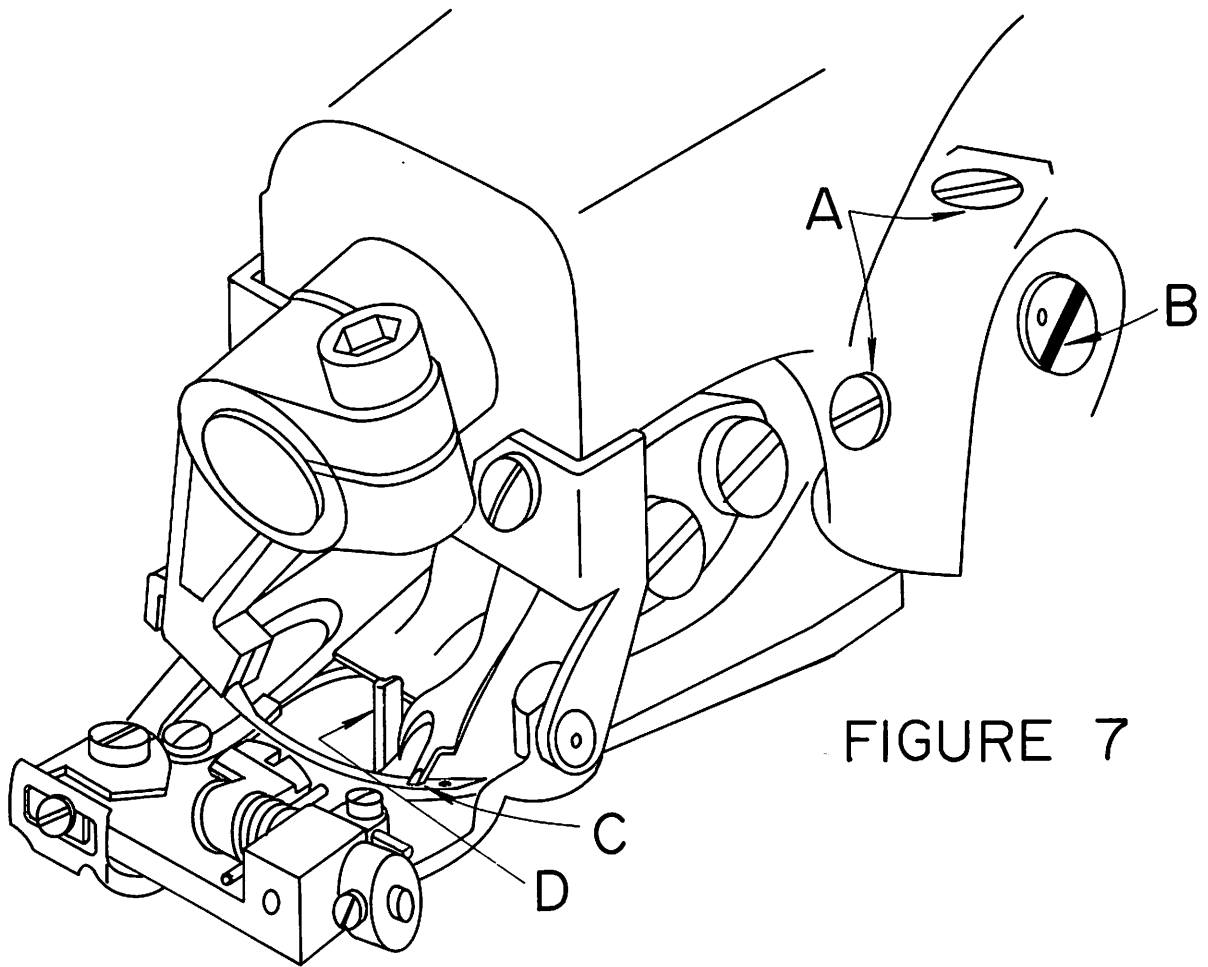

FIGURE 7
2. Any time a looper is moved or changed, recheck the looper timing and reset if necessary. Proper looper timing is absolutely essential for correct stitch formation. As described in detail below, a properly timed looper will pass over the needle in the correct position to pick up the loop, and also clear the chain-off pin, feeder, looper slot, and needle. The first check point for timing the looper is at the position where the looper picks the thread loop off the needle during the needle return stroke. Referring to Figure 7, (Point "C"), the long prong of the looper should pass over and just clear the scarf of the needle, approximately  $\frac{3}{32}$ " (2.4mm) behind the end of the needle eye. At the same time, the short prong of the looper should pass over the needle with about  $\frac{1}{64}$ " (.406mm) clearance, and must be so set that it also clears the chain-off pin (item "D" in Figure 7).
5. If, after completing the above adjustments, it is found that the looper is either too low or too high, it will be necessary to adjust the eccentric stud. First loosen the two set screws (item "A" in Figure 7). Place a wide blade screwdriver in the slot of the eccentric stud (item "B" in Figure 7) and, using a slight turning motion, raise or lower the looper as required. Once the proper height is established, check to see whether the looper must be moved to the left or to the right prior to retightening the eccentric block set screws. If such a movement is required, it may be obtained by lightly tapping the eccentric block in the correct direction with the handle of a screwdriver.
1. After considerable service, it may become necessary to replace the chain off pin, (Item "D" in Figure 7).